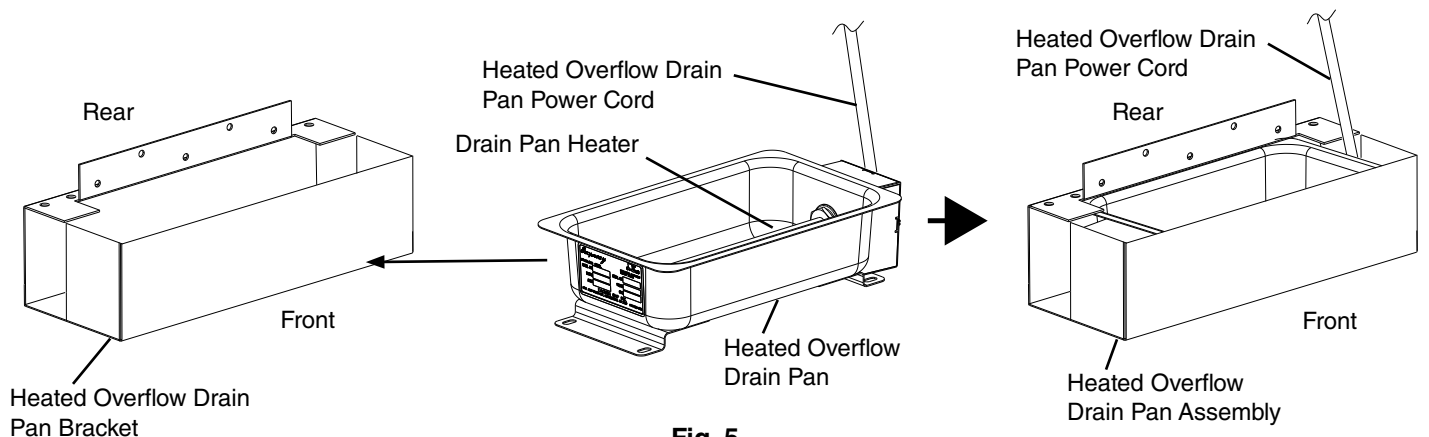

Fig. 5
8) Place the heated overflow drain pan provided in this kit, into the heated overflow drain pan bracket provided in this kit. See Fig. 5.